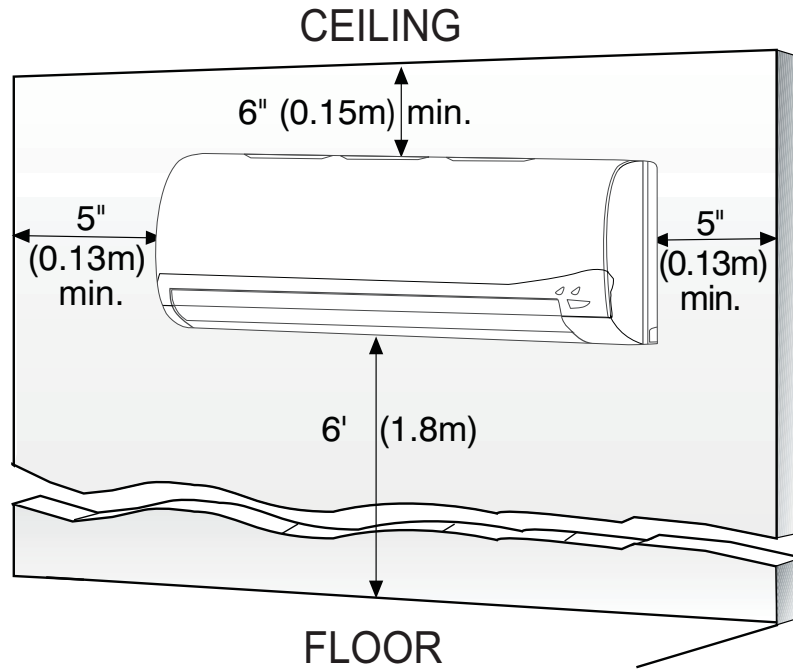

Fig. 4 – Indoor Unit Clearances
- A location which provides appropriate clearances as outlined in Fig. 4. Be sure to leave enough distance to allow access for routine maintenance. The installation site should be 72" or more above the floor.
- A location which provides appropriate clearances as outlined in Fig. 4.